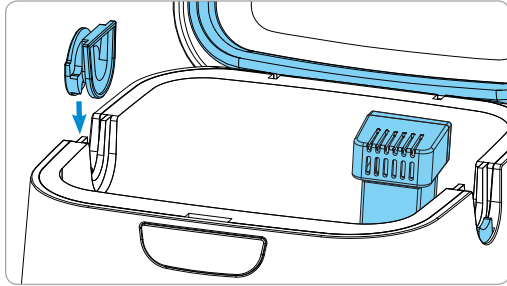

Figure 6. Install Removable Hose Slot Plug
2. Install the Removable Hose Slot Plug into one open slot (figure 6).
Orient the Removable Hose Slot Plug as shown in figure 6. The round face of the Removable Hose Slot Plug is outside of the SoClean device.